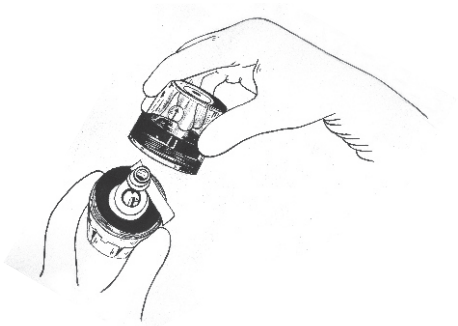

Figure 4 :
9. Hold the inner polycarbonate container in the upright position (as indicated by the direction of arrows) and open the inner polycarbonate container by rotating the container top in the anti clockwise direction (Refer figure4).